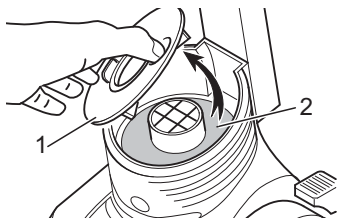

Fig.24
3. Remove the blow-out filter cover (Fig. 24/1) by turning it 10 degrees to the left and lifting it up.
4. Remove the blow-out filter beneath this (Fig. 24/2).